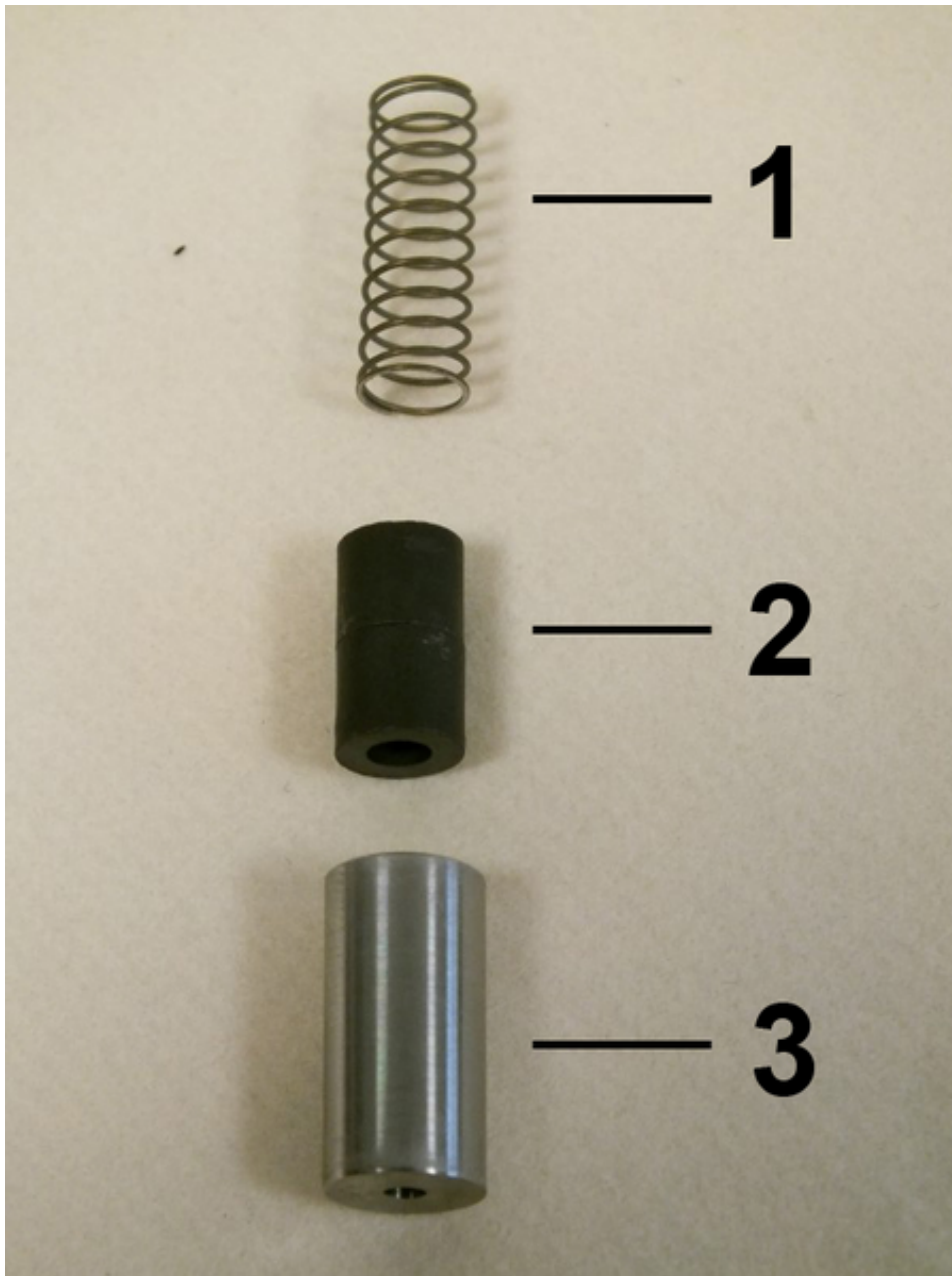

Fig. 45: Inner parts
- 3.** ➤ Insert spring (Fig. 45/1) with magnets (Fig. 45/2) into the float (Fig. 45/3), ensuring proper magnetic pole orientation (north pole toward device outlet).